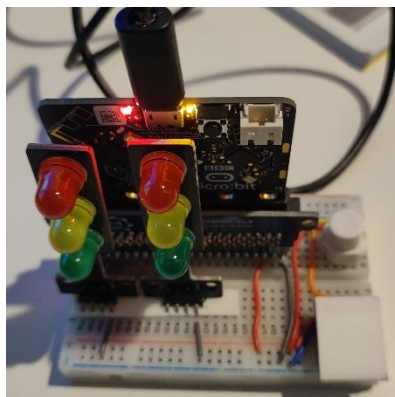
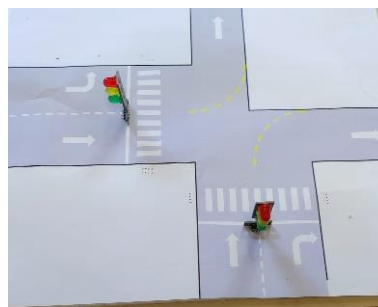

Figure 13
Figure 14
- the fastest is to build a prototype with a single breadboard on which to assemble all the components. This system does not provide for the creation of street layout drawings and the construction of the platform on which to place the various components (**Figure 13**)
- realization of the street layout drawings and the construction of the platform on which to place the various components. This system requires more time because it also involves some graphic realization and construction of the panel on which to insert the various elements (**Figures 14 - 15**)
Once the programming is complete we can move on to the test phase, using the prototype with a single breadboard (**Figure 13**) or create the street layout drawings and the construction of the platform (**Figure 14 - 15**) as indicated below.